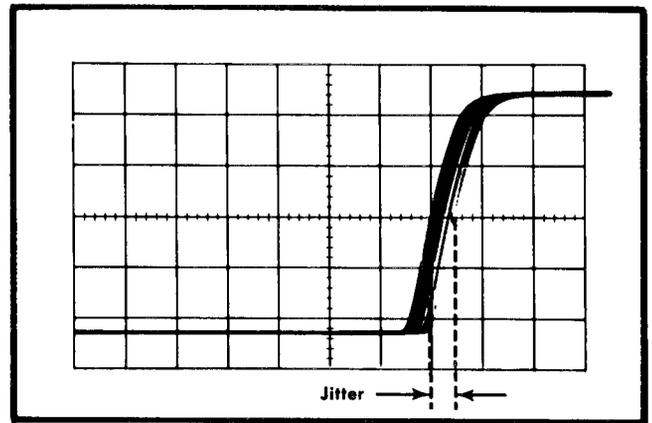

Fig. 2-23. Measuring pulse jitter.
10. Set the HORIZ DISPLAY switch to DELAYED SWEEP (B). Slight readjustment of the B LEVEL control may be necessary to produce as stable a display as possible.
**Example.** Assume that the horizontal movement is 0.5 divisions (see Fig. 2-23), and the B TIME/DIV switch setting is  $.5 \mu\text{s}$ .